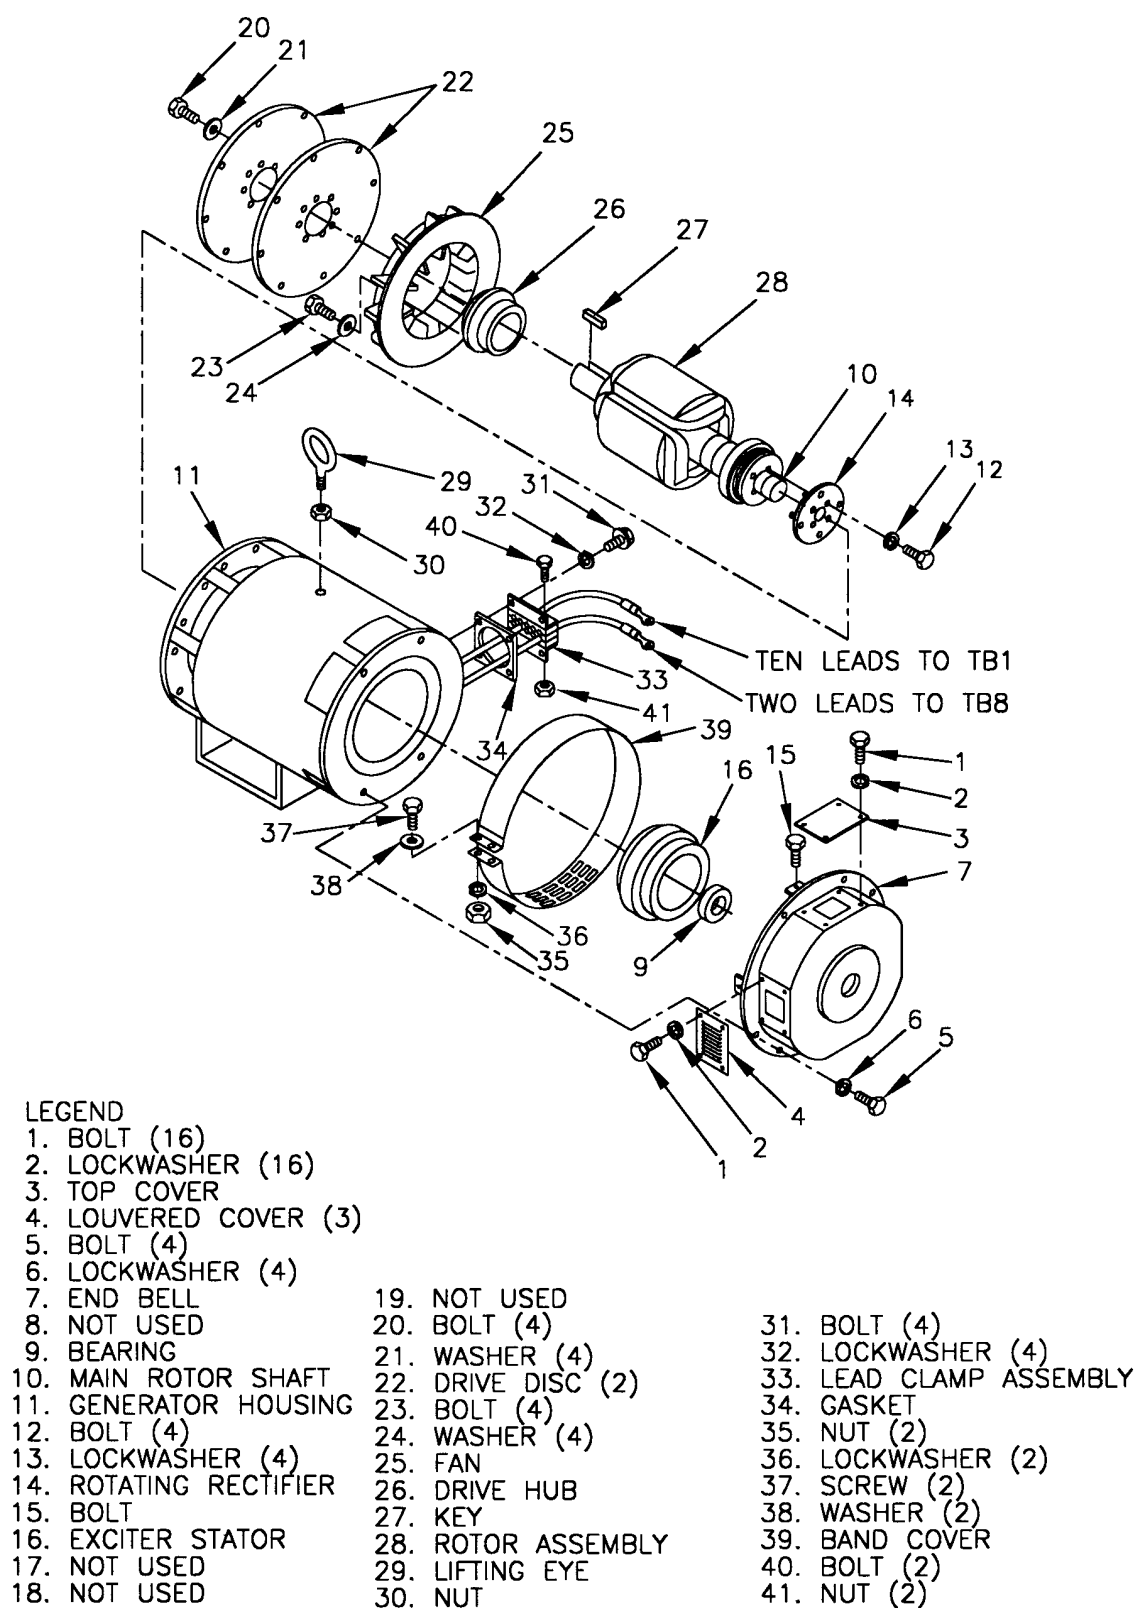

FIGURE 5-9. GENERATOR ASSEMBLY
- (9) Attach lifting harness to overhead hoist and generator lifting eye (27). Take up slack on harness.
- (10) Remove nuts (3), lockwashers (4), screws (5), washers (6), and band cover (7) from generator case.
- (11) Remove bolts (8), lockwashers (9), and washers (10) securing generator drive disc (22, Figure 5-9) to engine flywheel.
- (12) Remove bolts (11), lockwashers (12), and washers (13) securing generator to engine flywheel housing.
- (13) Remove locknuts (14), washers (15), bolts (16), Belleville washers (17), and snubbing washers (18) securing generator to skid base.
- (14) Lift generator slowly from skid base. Ensure engine flywheel and generator separate smoothly, avoiding any undue stress.
- (15) Remove jamnuts (19), washers (20), bolts (21), washers (22), jamnuts (23), plates (24), and angles (25) from generator.
- (16) Remove shock mounts (26) from skid base.
- (3) Remove rear housing panel. Refer to paragraph 4.7.5.
- (4) Remove bolts (1, Figure 5-9), lockwashers (2), top cover (3), and louvered covers (4) from end bell (7).
- (7) Loosen lead clamp assembly (33, Figure 5-9) clamping generator leads at side of generator housing (11). Ensure wires F1 and F2 are free to slide in and out of generator housing.
- (8) Remove end bell (7), with exciter stator (16) attached, by tightening bolts (5) evenly into back-out holes. Remove bolts from back-out holes.
- (1) Heat new bearing (9, Figure 5-9) to expand diameter to fit on main rotor shaft (10). Install new bearing (9) on main rotor shaft (10). Ensure bearing is seated squarely against shaft shoulder by applying pressure to inner race only.
- (2) Position bearing (9) in end bell (7).
- (6) Remove bolts (3) and washers (4) securing exciter rotor leads to rotating rectifier plate (5). Tag and remove leads.
- (7) Remove bolts (12, Figure 5-9), lockwashers (13), and rotating rectifier (14) from rotor assembly (28).
- (1) Install rotating rectifier (14, Figure 5-9), lockwashers (13), and bolts (12) on rotor assembly (28).